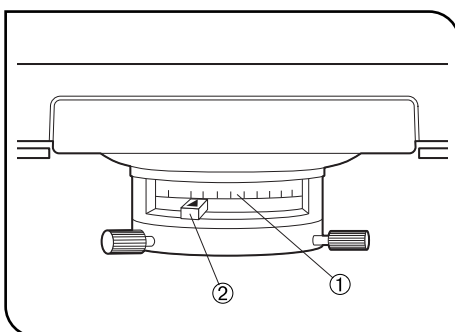

Fig. 23
### 2 Aperture Iris Diaphragm (Fig. 23)
When using a 100X objective, turn the aperture iris diaphragm knob ② all the way to 0.9 on the scale. (Fig. 23)